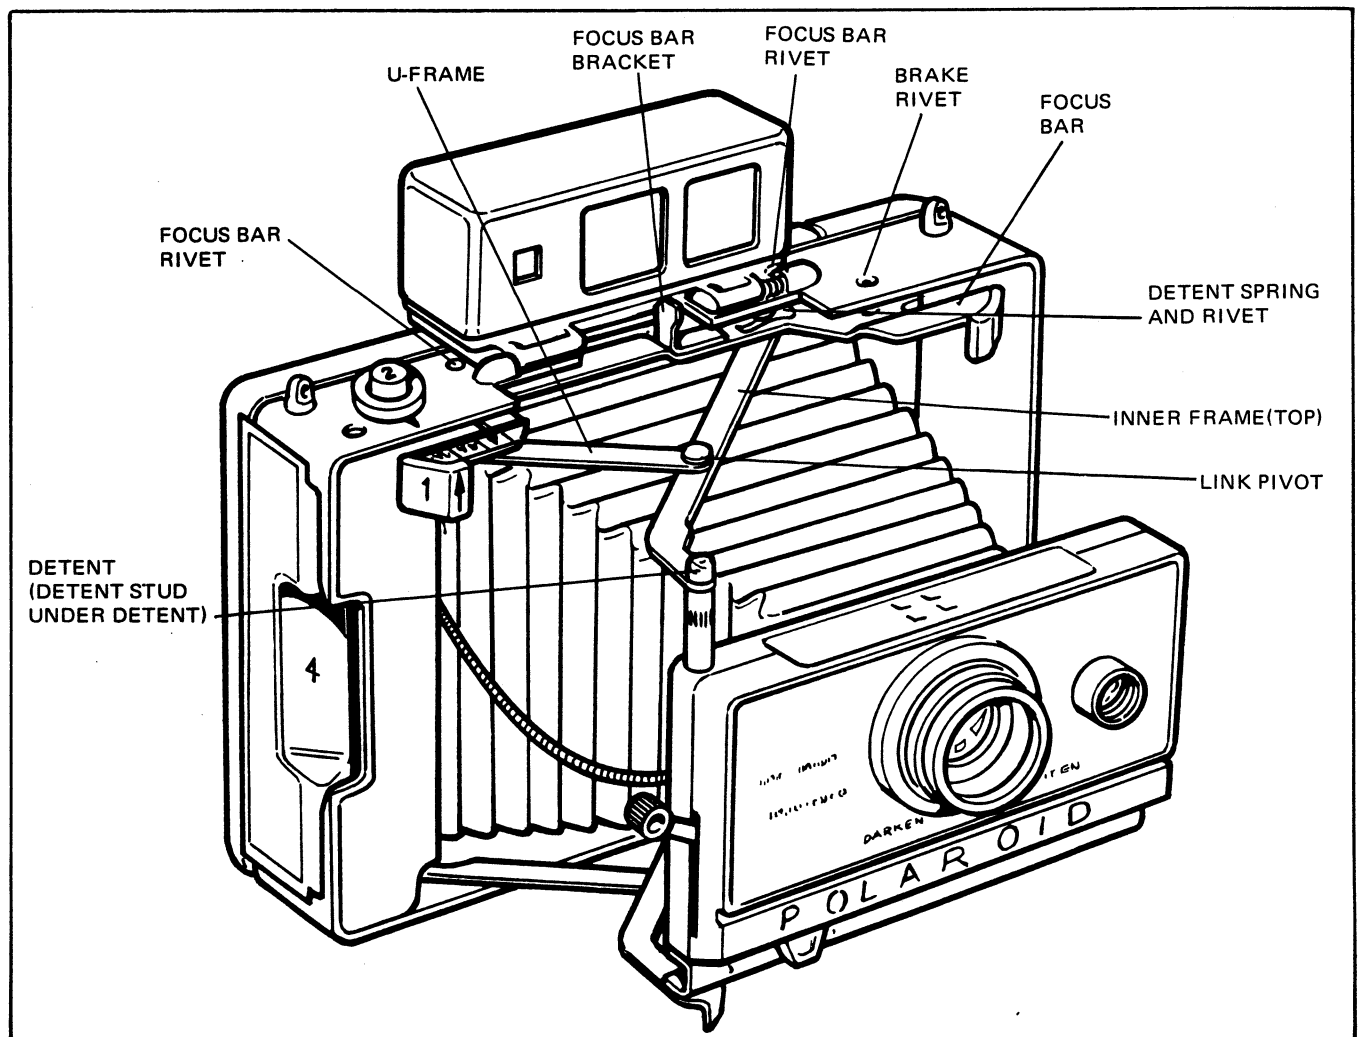

FIG. 5.21 REMOVING THE FOCUS BAR AND INNER FRAME
1. Remove the link pivot holding the inner frame (top) and the U-frame using tool #11026 (Figure 5-21). Discard the spacer.
1. Unrivet the link pivot holding the top inner frame to the U-frame (Figure 5-21) using tool #11026. Discard the spacer.
1. Extend the bellows to detent lock-in. Unrivet the link pivots holding the U-frame to the top and bottom inner frames using tool #11026. (Refer to Figures 5-21 and 5-22.) Discard the spacers.